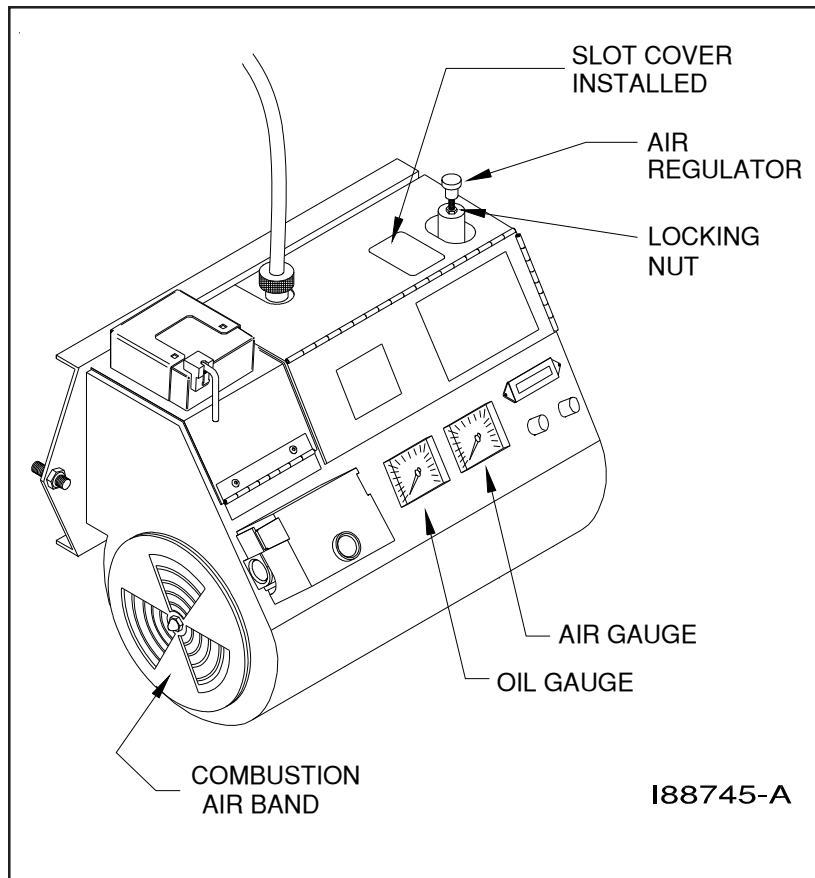

Figure 6A - Component Detail of the CB-500 Series Burner
4. Refer to Figure 6A. Loosen the locking nut on the air regulator.
- Refer to Figure 6A to identify the combustion air band location on the burner.